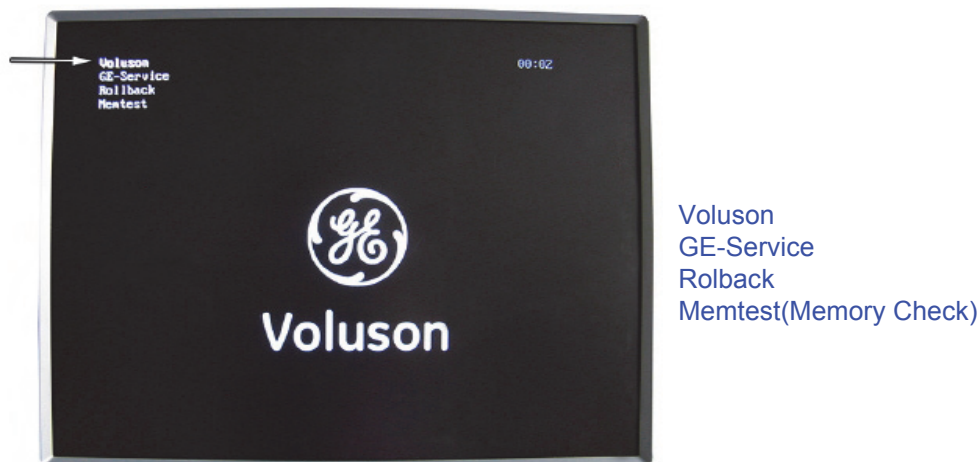

Figure 5-33 Boot screen
- 2.) As soon as the "Boot Screen" appears (see: Figure 5-33 above), press the **PG DN** [Arrow down] key on the keyboard until the **GE Service** item is highlighted, then press **ENTER**.
- 2.) As soon as the "Boot Screen" appears (see: Figure 5-33 on page 5-60), press the PG DN [↓ Arrow down] key on the keyboard until the **Rollback** item is highlighted, then press ENTER.
2.) As soon as the “Boot Screen” appears (see: Figure 5-33 on page 5-60), press the **PG DN** [↓ Arrow down] key on the keyboard until the **Rollback** item is highlighted, then press **ENTER**.